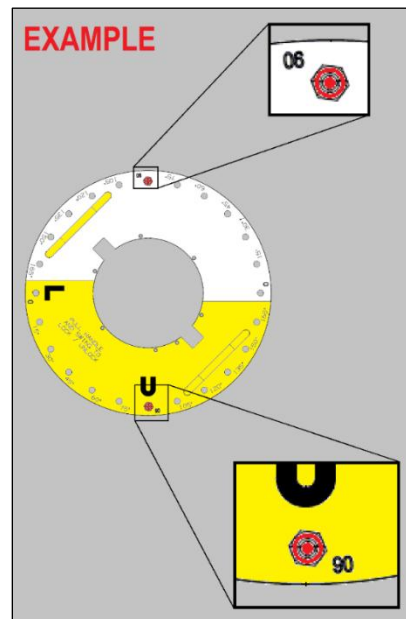

Figure 19: Pins and Nuts Position
4. Move the two Guide Pins and two Hex Nuts to the Top Plate at the position read from Column 2. See Figure 19.